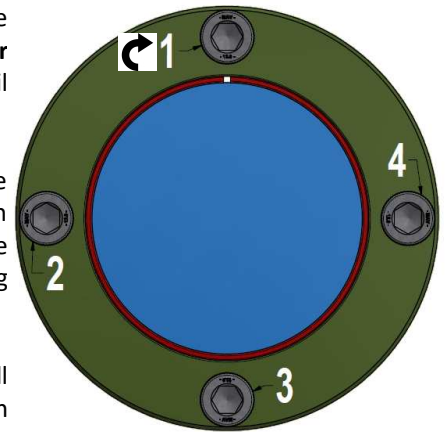

Fig. 4. Example of tightening pattern.
3. Use a torque wrench set approx. 5% higher than specified tightening torque (Ma). **Progressively tighten the screws in either a clockwise or counterclockwise sequence, using approx. ¼ turns for several passes until ¼ turns can no longer be achieved (fig. 4).**